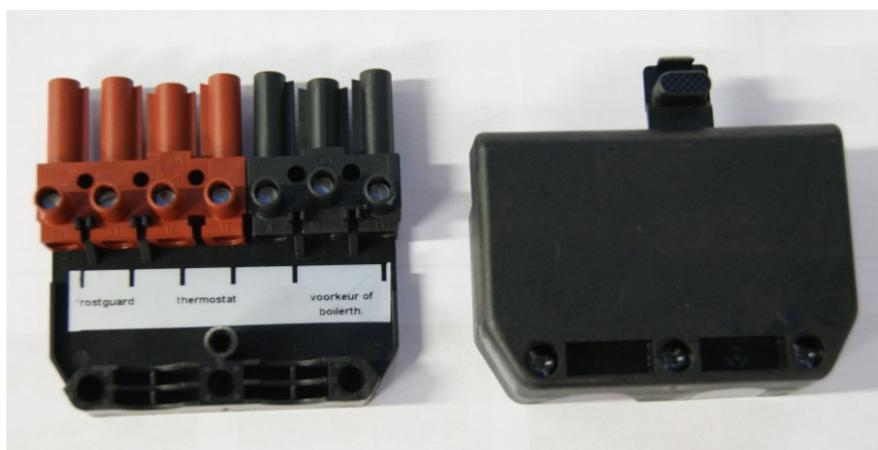

Figure 11
- Connect the 4 wires of the room thermostat at T1 and T2 and S3 and B4 in connection A (figure 11) at the backside of the dashboard as shown on the sticker inside the connector.
- Connect the Frost Guard connections (Fig 6.1) of the room thermostat to connections Q21 (S3) and Q22 (B4) and in the plug on S3 and B4 (figure 11) at the back of the dashboard.